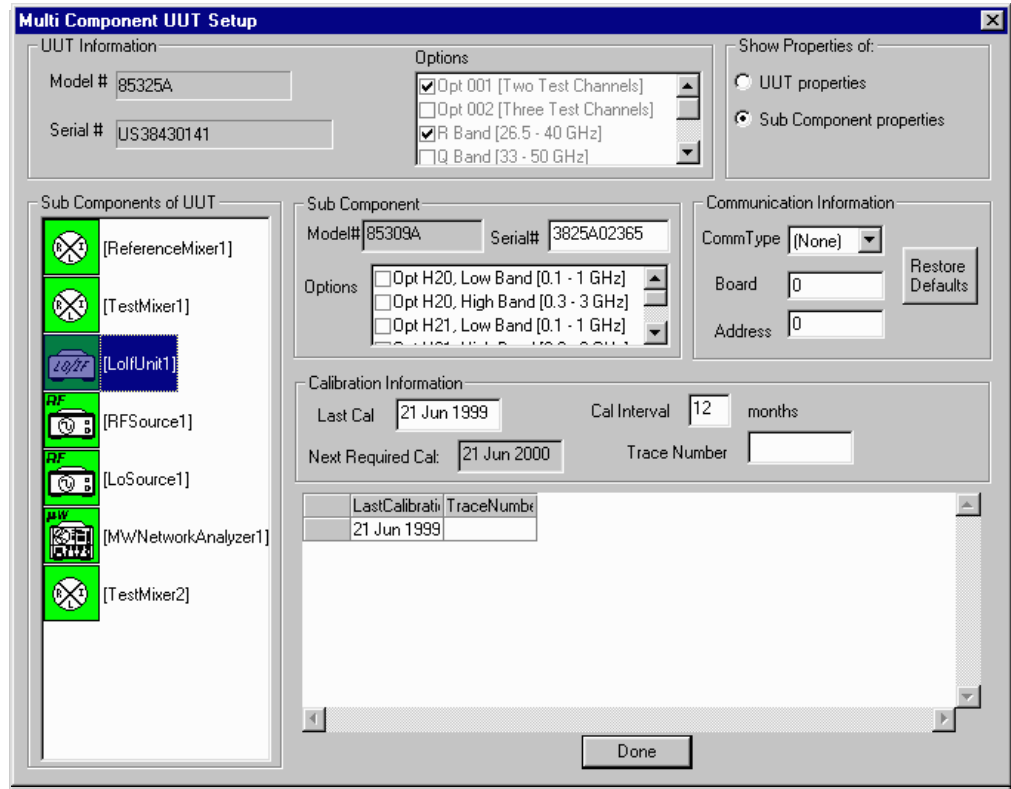

Figure 23 *Selecting Subcomponent Options of a Multi-component UUT*
6. Click the **Sub Component Properties** radio button in the upper-right portion of the window. This screen allows you to define properties of the multi-component UUT. See Figure 23 on page -33. Table 11 through Table 13 describe the component options information.